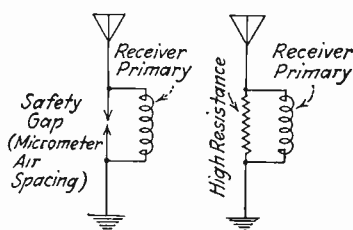

FIG. 24a.—Protective devices on receiver.
2. Safety gap (lightning arrestor) connected across the primary winding of the receiving tuner (see Fig. 24a).
3. High resistance connected across the primary winding of the receiving tuner (see Fig. 24a).